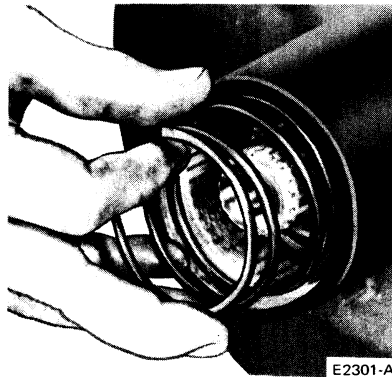

FIG. 8 Coil Spring Installation
3. Install the coil spring with large end entering first (Fig. 8).